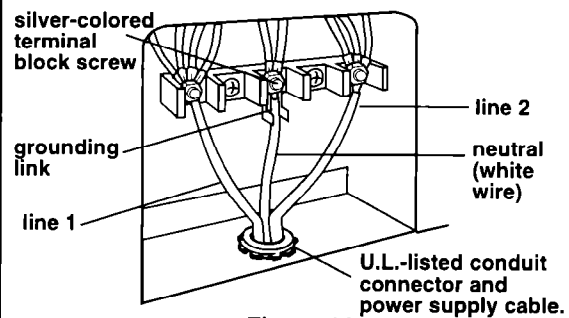

Figure 11
8. Use the brass terminal nuts attached to the knockout opening to connect the neutral wire (white wire) to the silver-colored terminal screw on the terminal block. See Figure 11.
9. Connect the other two wires to outer terminal screws on the terminal block. See Figure 11.